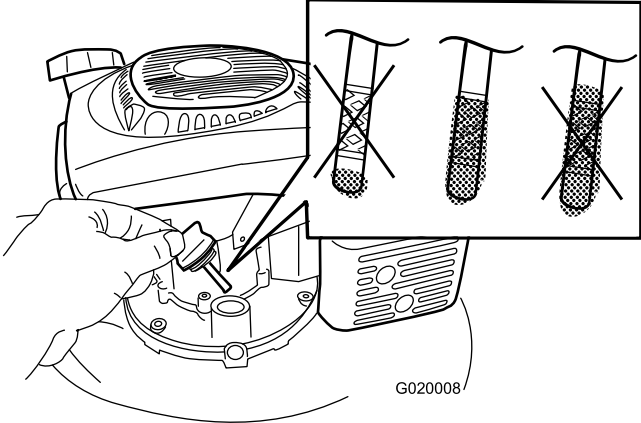

Figure 5
- 1. Remove the dipstick (Figure 5).
- 2. **Slowly** pour oil into the oil-fill tube until the oil level reaches the Full line on the dipstick (Figure 5). **Do not overfill.** (Max. fill: 22 oz. (0.65 l), type: 10W-30 or SAE 30 detergent oil with an API service classification of SJ or higher.)
Note: Each time you check the oil level, remove the dipstick and wipe it clean, insert it into the oil filler neck (but **do not** screw it in), then remove it again and check the level (Figure 5).